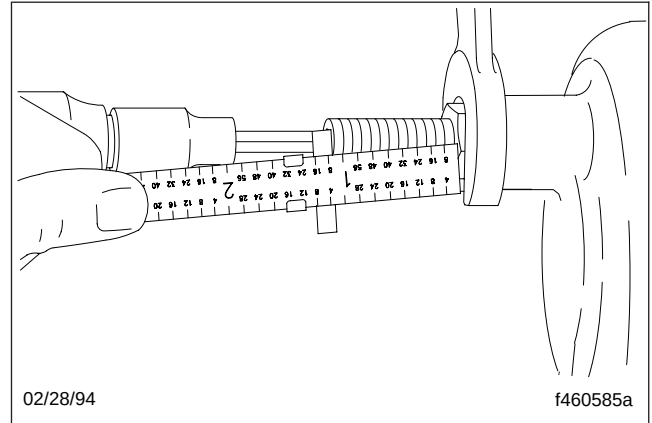

Fig. 5, Adjusting Screw Position
11. Loosen the sealing nut and back out the adjusting screw until the adjusting screw is 1 inch (2.5 cm) past the nut. See Fig. 5. Tighten the nut against the housing.